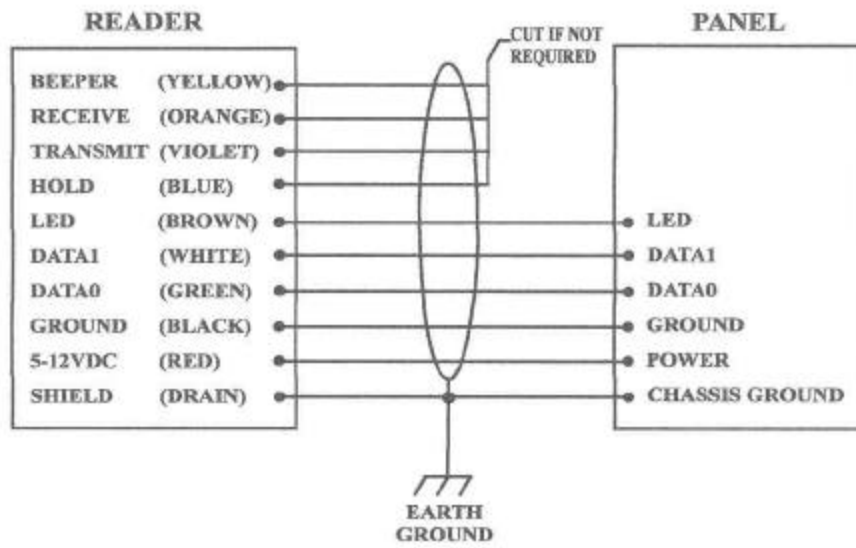

FIGURE 1: WIRING DIAGRAM
- 2.) Connect the Reader (Item b on Parts List) and the panel together according to Figure 1.